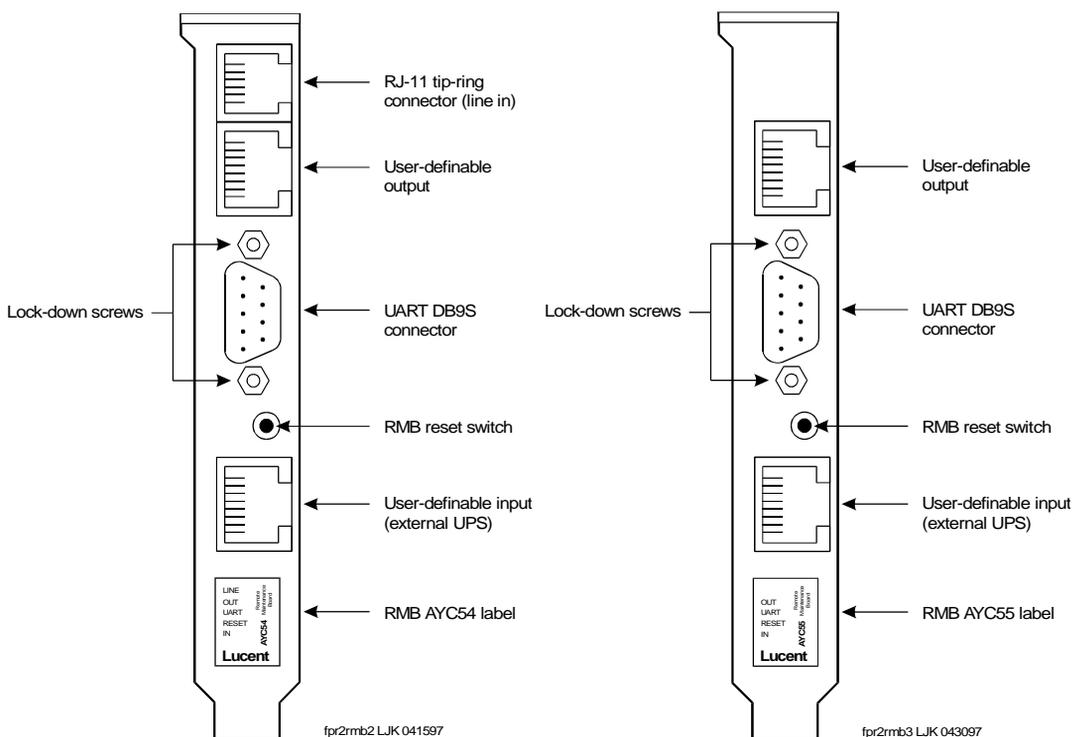

Figure 7-19. RMB Rear Faceplates (AYC54 and AYC55)
1. Check whether the system has an RMB, by looking at the top ISA slot on the back of the system for a faceplate that looks like one of the circuit cards in Figure 7-19 on page 7-37.